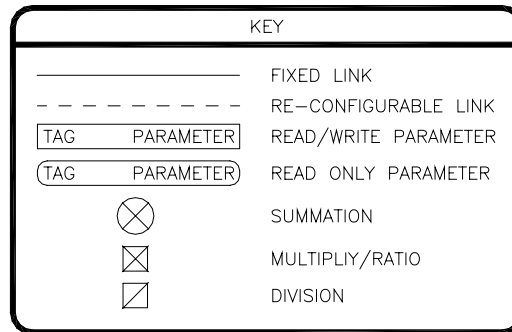

Figure 14: Block Diagram Key
The MicroManager's parameters are grouped into numerous functional blocks. The blocks can be interconnected via links in different configurations to perform different application tasks. Please refer to drawing D13324 Sheet 1 on page 90 for an overall view of all the blocks. Each parameter has a descriptive name and a tag (or number) identifier. The following sections contain each software block diagram and descriptions of each parameter function. Refer to Figure 14 below for key conventions that are used in the block diagrams. Each parameter is one of three types: Read-Only (RO), Inhibit Change while Running (ICR), or Read-Write (RW). ICR parameters can be changed only when the unit is not in the Run mode. Remember that parameter changes must be saved by setting P1 to 1.